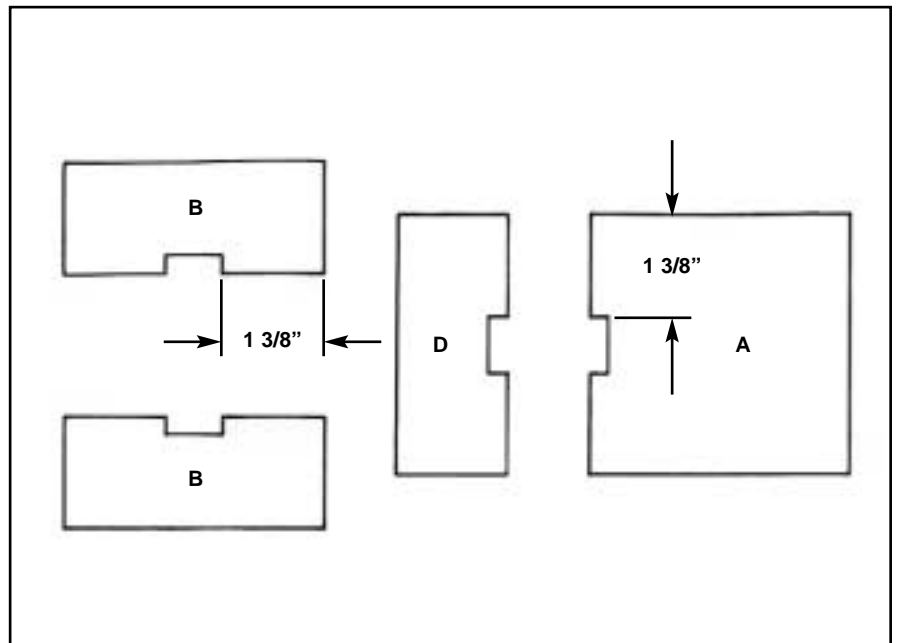

**Figure 1**
1. Space concrete footings as shown in Figure 1. Footings should be set in holes and filled with concrete for stability. Top of footing should be 2" to 3" above the natural grade. Check for level and squareness.